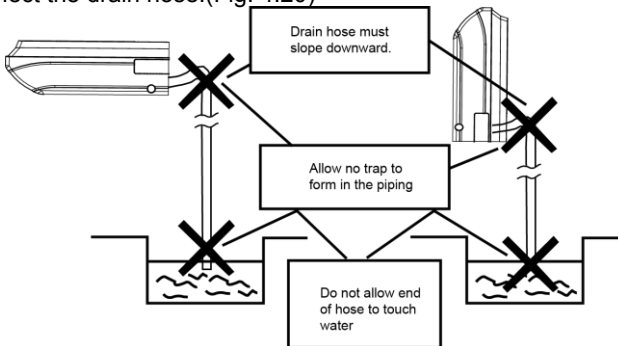

Fig. 4.20
- (4). Connect the drain hose.(Fig. 4.20)